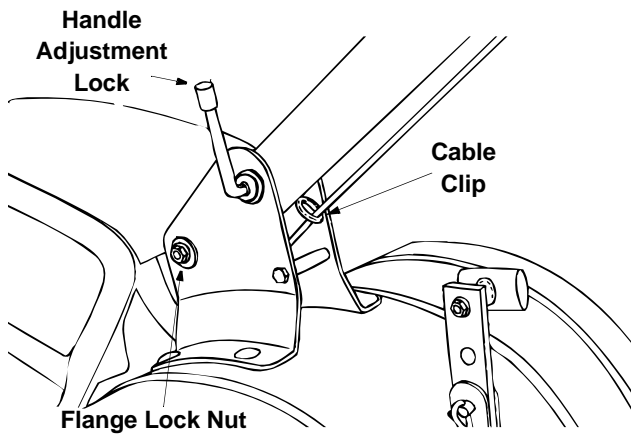
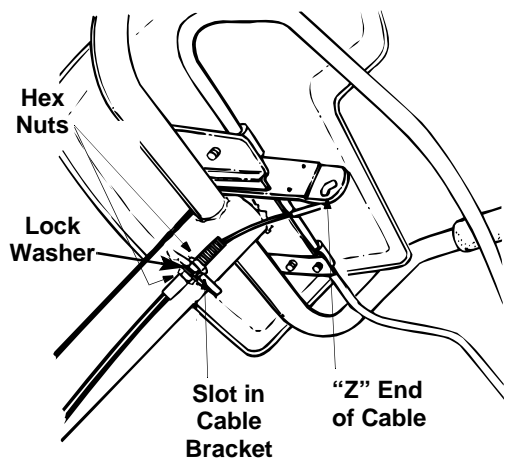

Figure 9
Figure 10 Viewed beneath handle panel.
1. Route the clutch cable underneath the handle and through the cable clip. Be careful not to bend or kink the cable. Refer to Figure 9. Remove one hex nut from the threaded casing on the end of the cable. See Figure 10.
- Pull the cable upwards to obtain slack, and, from right to left, hook the "Z" end of the cable into the bracket on the clutch control (beneath the handle panel) as shown in Figure 10. Tighten the nut against the cable bracket.
If the belt turns with the unit in neutral, adjust by moving the hex nut below the cable bracket **down** a few turns. See Figure 10. Tighten the upper hex nut against the bracket.